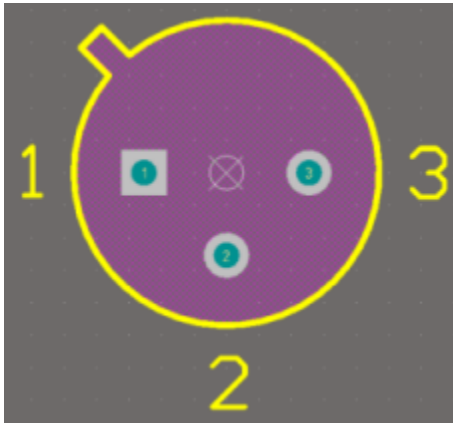
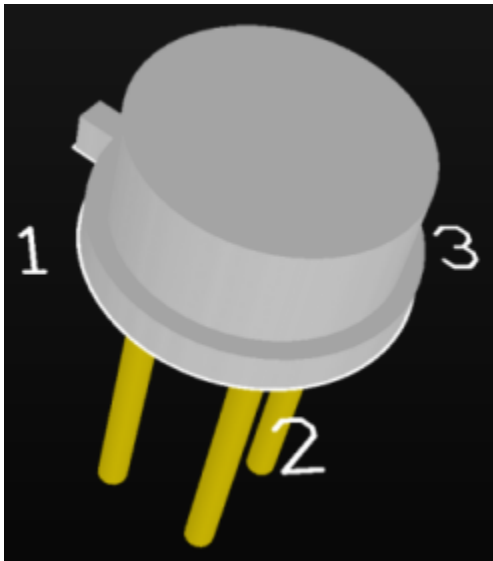

Figure 58. TO-39 2D footprint with 3D body added.
Figure 59. TO-39 3D model.
4.Click **Close** and the 3D body shape will appear on the component, as shown in Figure 58. Save the library. Figure 59 shows a completed 3D model for TO-39. This model consists of five 3D body objects: